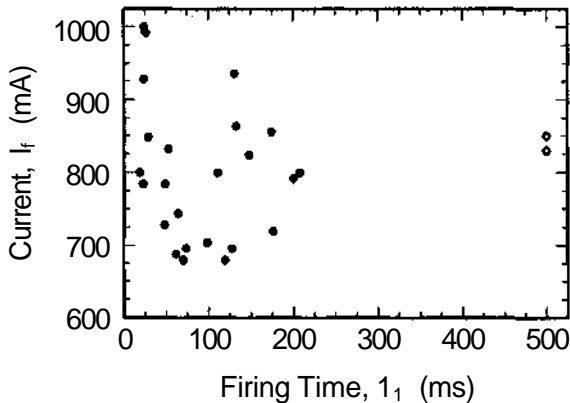

Figure 4. Ramp firing current data for Daveyfire AN28-F electric matches.
- b) These results varied so widely (See Figure 4) that it was not felt to be appropriate to attempt to assign values.
about 50% more current, and the Luna Tech Flash matches require at least 300% more current, than do the normal sensitiveness matches. The ramp firing data for a collection of Daveyfire AN28-F matches is presented in Figure 4. The scatter in the data is such that no reliable estimate could be made for the minimum firing time and its corresponding ramp firing current; however, it is apparent that it too requires significantly more firing current than e-matches of normal sensitiveness.
tical spread significantly narrower than average, and one e-match type, Daveyfire AN28-F matches, had a statistical spread significantly broader than average (see Figure 4). (As in Figure 3, the two data points shown as open dots in Figure 4 were instances where the e-matches did not ignite and are arbitrarily plotted with a firing time of 500 ms.) It would seem that matches with lesser spreads might prove to be more reliable (predictable) in their performance, while those with wider spreads would be less predictable in their performance. This could possibly translate to their being less reliable in series firing of many matches. However, this has not been proven, and it is not known the extent to